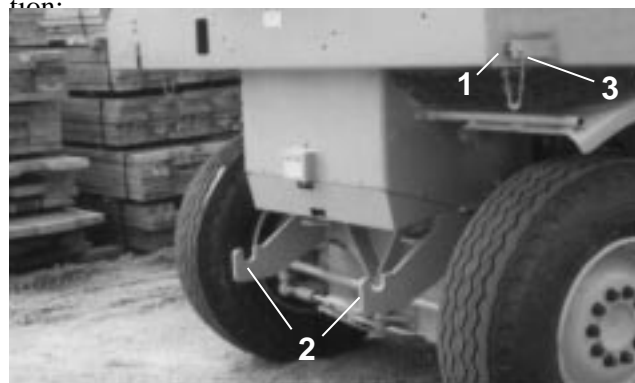

Figure 1 Front Of Chipspreader
1. By hooking a lifting sling into the rear lifting eye, the hopper can be tilted forward while being raised, allowing the hopper carrying shafts to engage the hopper carrying arms on the ChipSpreader. (Figure 1 & 2) Lower hopper slowly until lifting sling can be disconnected.